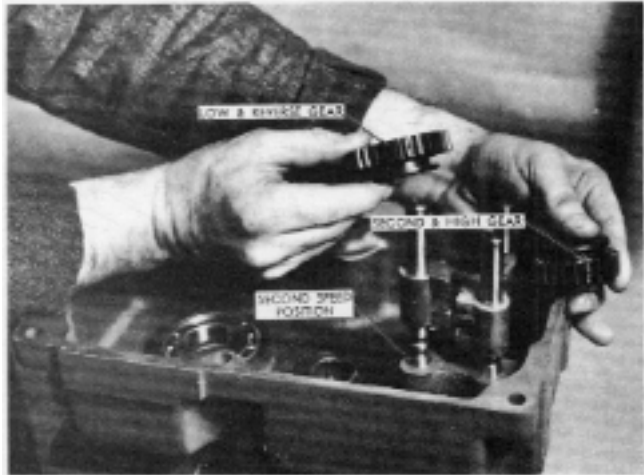

FIGURE 17
- Shift the 2nd and high shift fork into the 2nd speed position and install the 2nd and high sliding gear, and the low and reverse sliding gear in position on their respective forks, Figure 17. Note that the shift fork grooves of the sliding gears face each other, and that the smaller of the two gears is the 2nd and high gears which goes on the bottom.